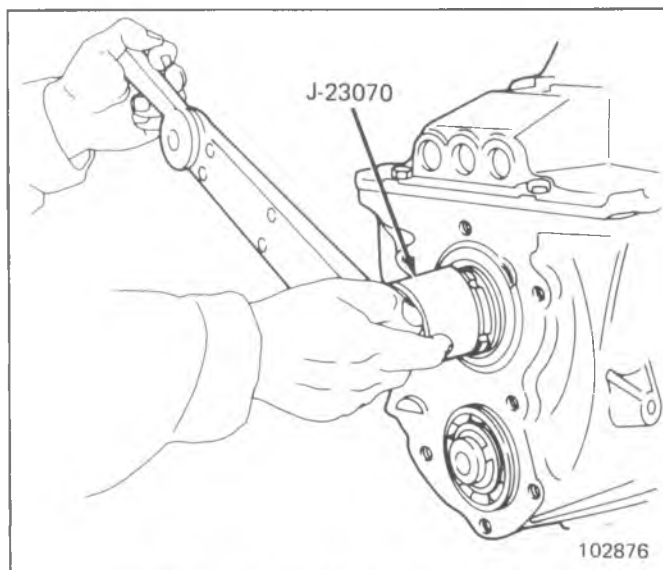

Fig. 7B4-30--Mainshaft Rear Bearing Lock Nut
8. Install appropriate tool in countergear front bearing opening in case to support countergear and rotate case onto front end. (Fig. 7B4-28).
9. Install snap ring on countergear rear bearing O.D. position, bearing on countergear and using Tool J-22874-1, drive bearing into place (Fig. 7B4-29). Rotate case, install snap ring on countershaft at rear bearing and then remove Tool J-22874-1.